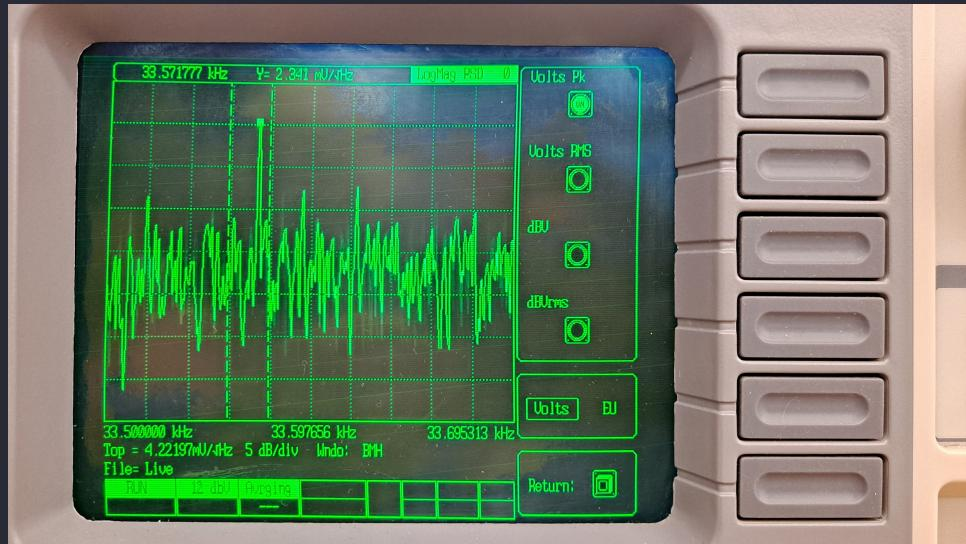

Figure 1.12: 770 View for BT Signal C
**Summary** From Fig. 1.12 We had to pan through the full range of the 770 at  $100/2^6 = 1.5625$  kHz to find the peak at 33.57 kHz. This means that we had to decrease the span 6 times to find the peak, and comb through each  $\tilde{1}$ .5 kHz range and wait for the 770 to acquire  $n$  average each time. Since the 770 cannot analyze the full span at small frequency ranges all at once, we had to manually pan through the full range for each iteration. Finally, we chose not to look for Signal D as it was only limited by the time it would have taken to pan through the full range of the 770 at even smaller frequency ranges and larger averaging.